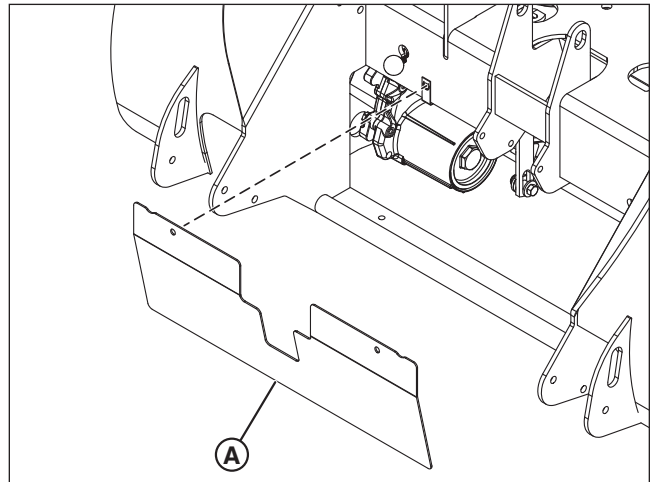

Figure 2. Remove the Foot Guard
2. Remove the foot guard (**A**, **Figure 2**) and the hardware that retains it from the back of the unit.